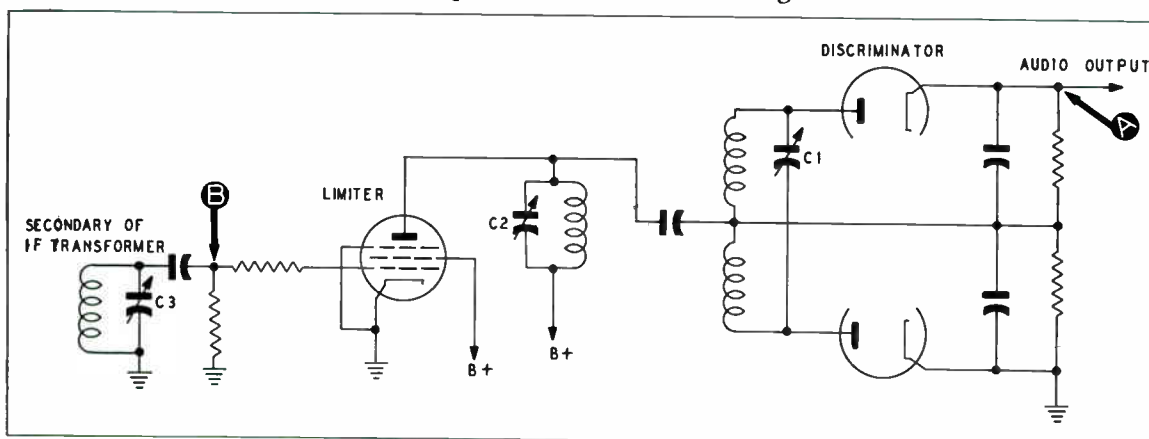

Figure 3. — Limiter-Type Detector Schematic
1. Referring to figure 3, connect the output cable of Model 7008 between test point B and ground; connect the input through the scope input leads between test point A and ground.